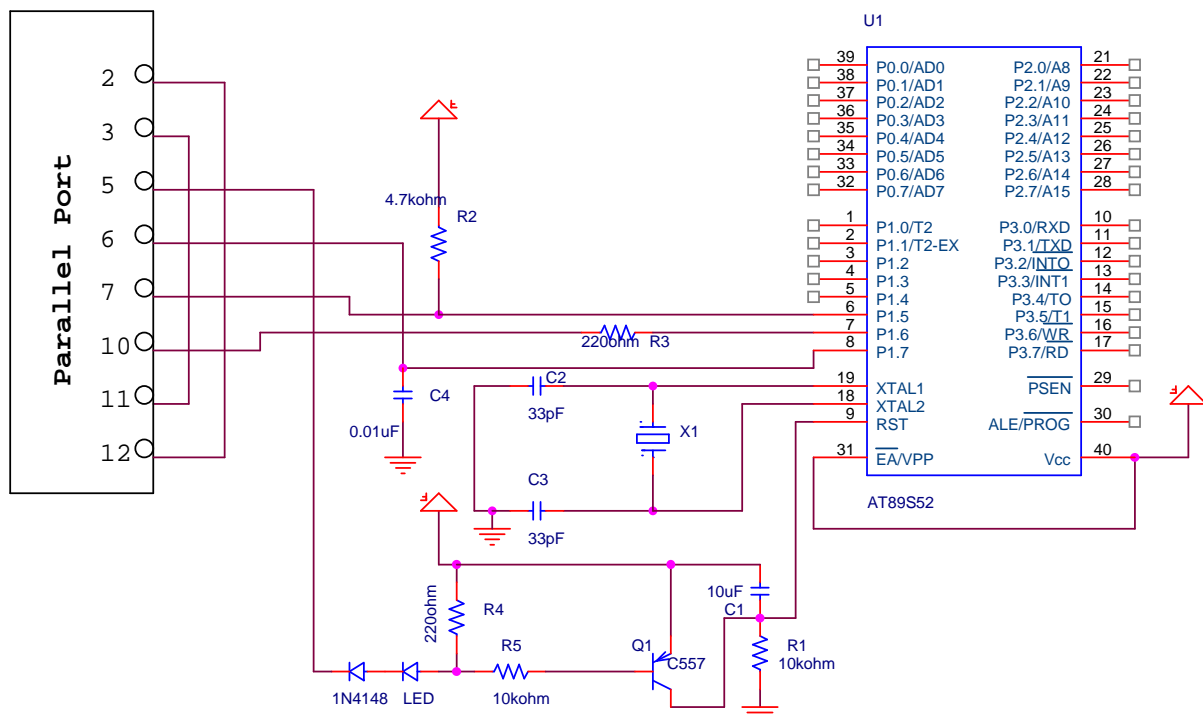

Fig. 1.2: Programmer Circuit for an AT89S52 MicroController
1. Connect the circuits as shown in figure 1.2 in the bread board. Use 20MHz crystal.